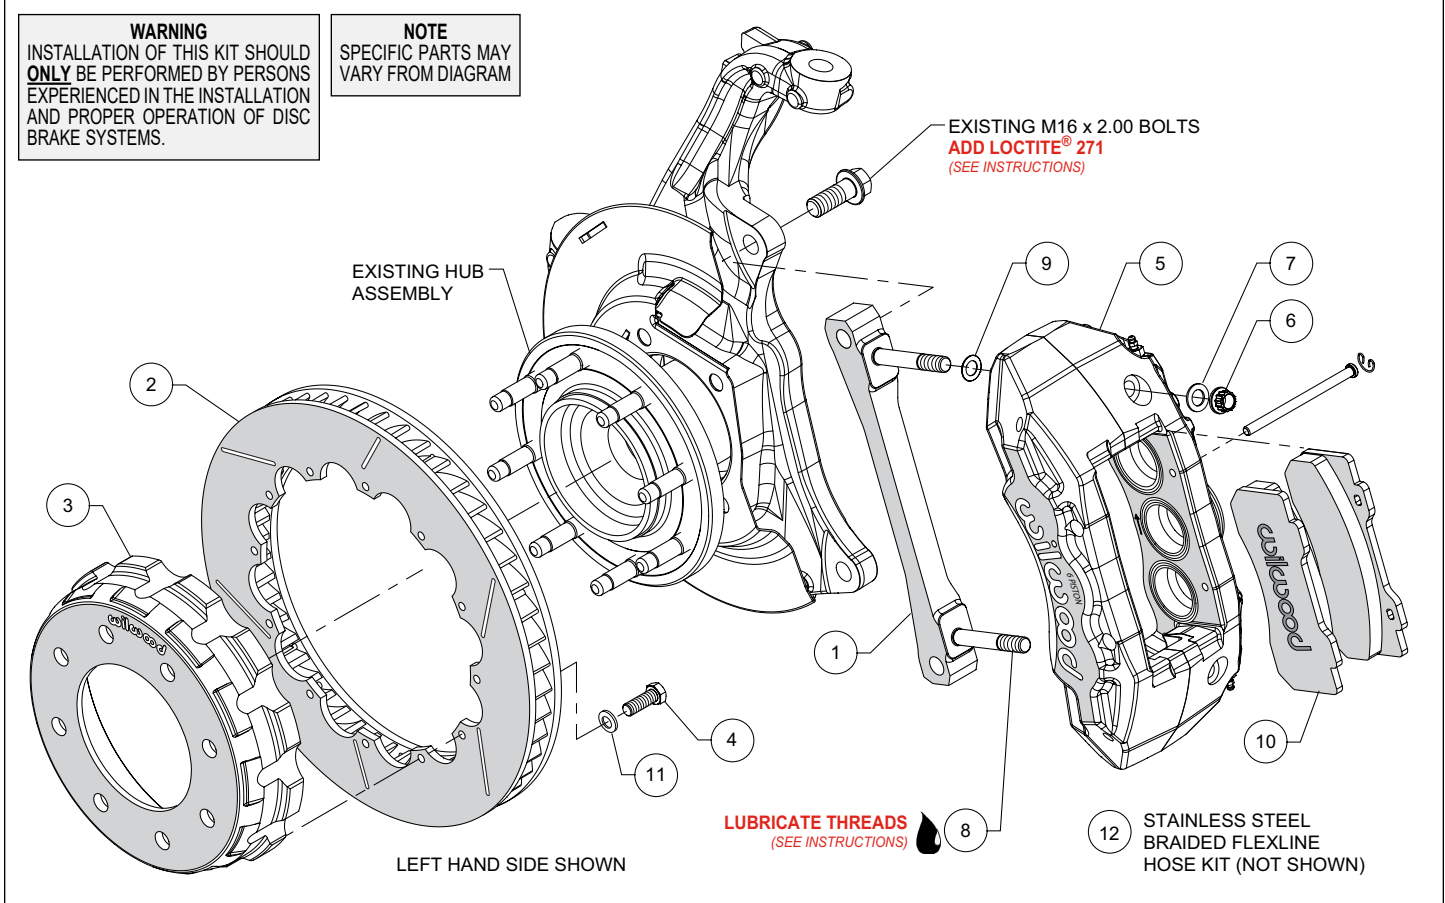
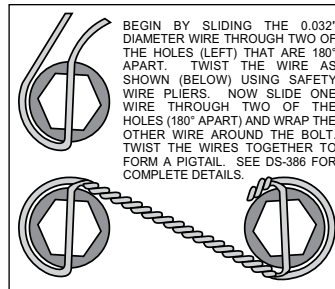

Figure 1. Typical Installation Configuration
Figure 3. Safety Wire Diagram
NOTE: Numbers in parenthesis refer to the parts list and Figure 1 on the preceding pages.
- The caliper mount bracket (1) should initially be installed with clean, dry threads on the mounting bolts. Orient the bracket as shown in Figure 1 and Photo 1, and install using saved OE bolts. Temporarily tighten the mounting bolts. **NOTE:** The bracket must fit squarely against the mount bosses on the upright. Inspect for interference from casting irregularities, machining ridges, burrs, etc. Remove the mounting bolts one at a time and apply red *Loctite*® 271 to the threads and torque to manufacturer's specifications.
- Orient the rotor (2) and the hat (3) as shown in Figure 1 and Photo 2. Attach rotor to hat using bolts (4) and washers (11). Torque bolts to 25 ft-lb using a criss-cross pattern. For an added measure of security, the bolts may be safety wired using standard 0.032 inch diameter stainless steel safety wire as shown in Figure 3. Please refer to Wilwood's data sheet DS-386 (available at www.wilwood.com/Pdf/DataSheets/ds386.pdf) for complete safety wire installation instructions.
- NOTE:** This kit contains distinct right and left hand calipers that must be mounted in a specific direction, as described below. Lubricate the caliper mounting studs (8) with lightweight oil. Initially place one .032" thick shim (9) on each stud as shown in Figure 1 and Photo 3. Mount the caliper (5) onto the bracket (1) using lock nuts (6) and washers (7), Figure 1. Ensure that the caliper is mounted so that the largest pistons are at the rotor exit end of the caliper, in relation to the direction of rotor rotation. Temporarily tighten the lock nuts.